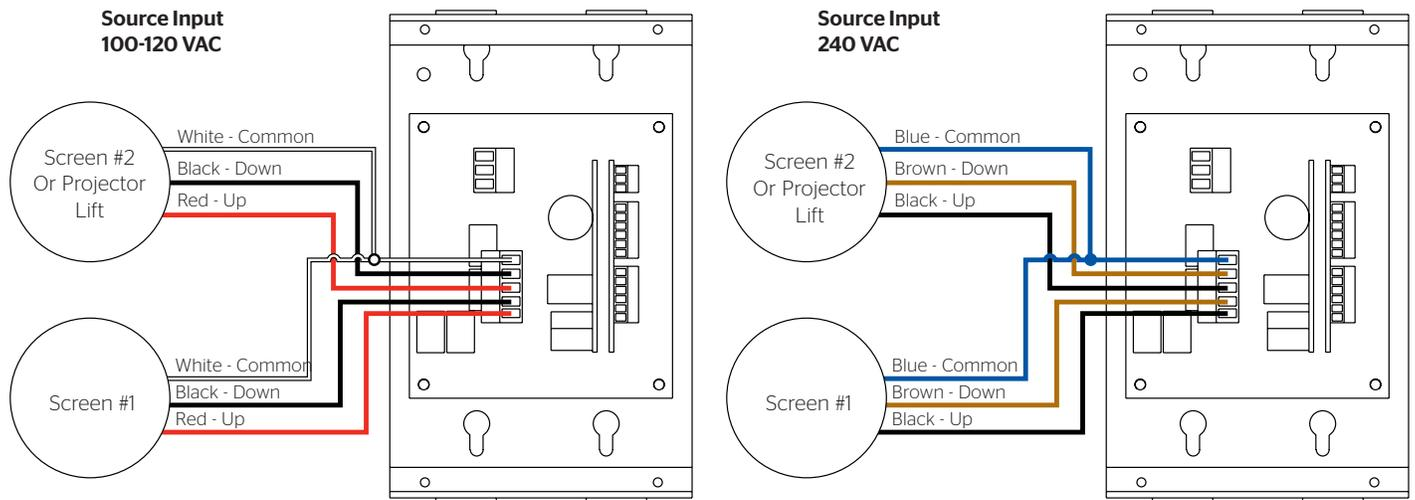

Figure 2
1. Connect the motor wires in the screen junction box to the SCB-100 as shown in Figure 2.